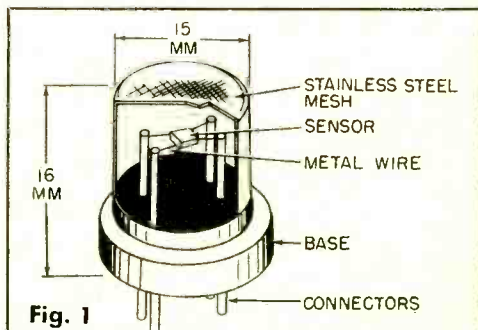

Fig. 1
- The gas sensor element (Fig. 1) is composed of bulk semiconductor material